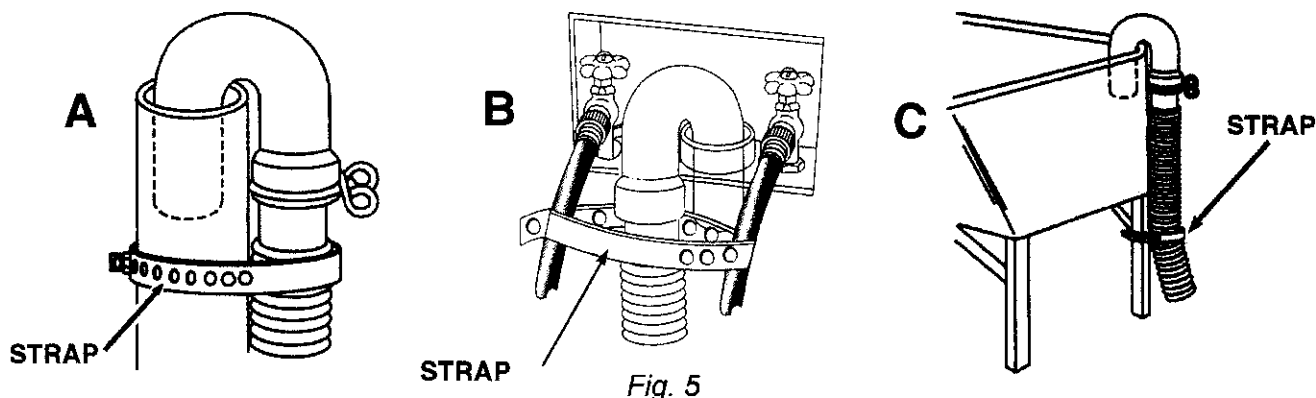

Fig. 5
19. The hook-end of the drain hose can be installed into a stand pipe (Fig. 5, A & B) or laundry tub, (Fig. 5, C) and secured with the shipping strap as shown.